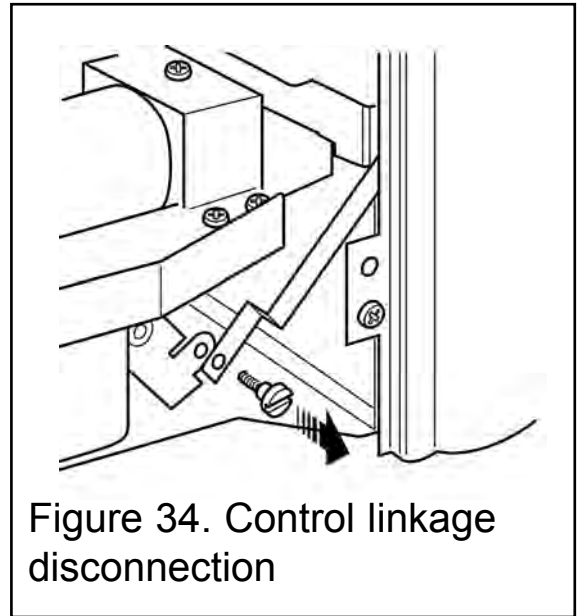

Figure 34. Control linkage disconnection
2. Remove the screw and disconnect the control linkage (See figure 34)